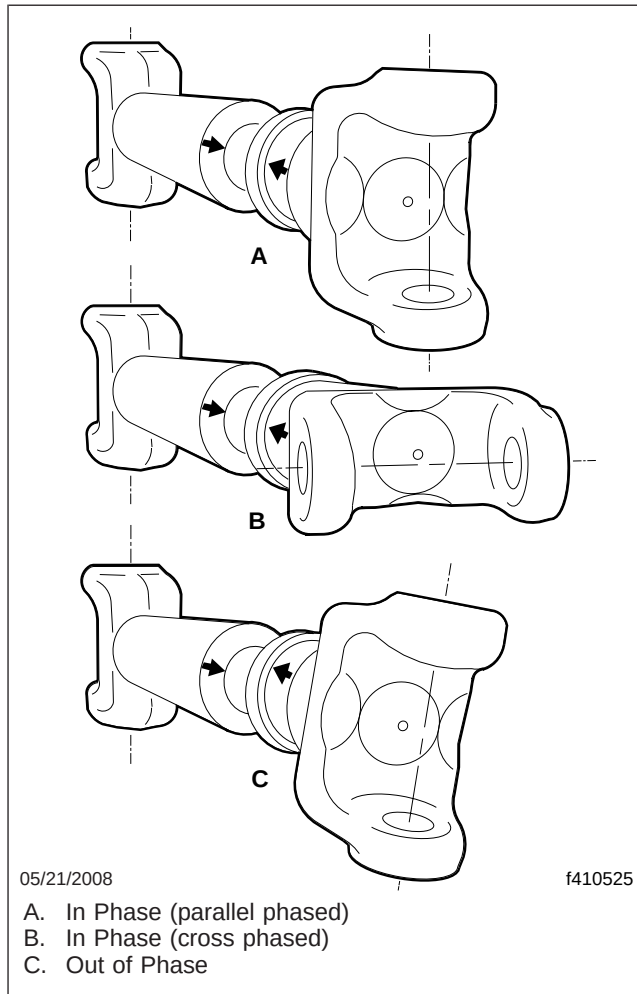
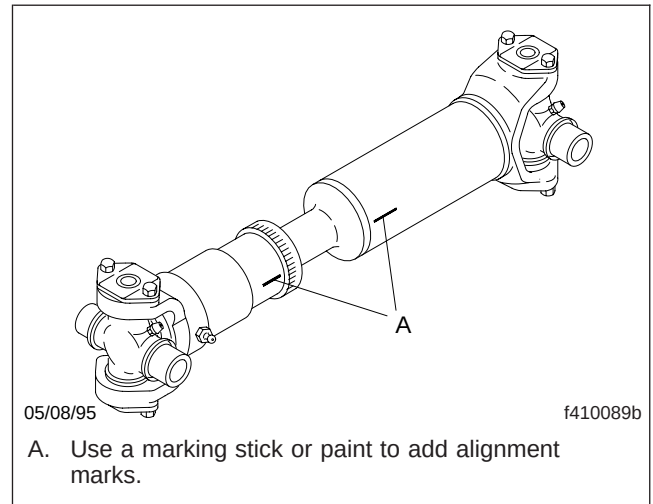

Fig. 8, U-Joint Phasing
Fig. 9, Slip-Joint Alignment Marks
1. Check that the driveshaft yokes are aligned to hold the U-joints at either end in phase, as shown in Fig. 8. Using a marking stick or paint, mark the sleeve-yoke and splined shaft with alignment marks, as shown in Fig. 9. This will ensure proper alignment of the slip-joint components when the driveshaft is assembled.